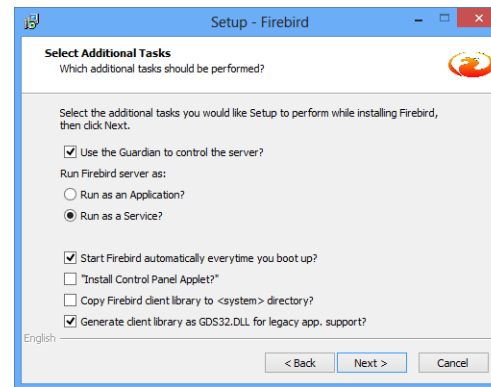

Fig. 33 Window of database installation server
**!!! ATTENTION !!!** While installing database server on Windows 2000 and Windows XP systems, all the suggested settings should be accepted. In Windows Vista, applet installation should be SWITCHED OFF in control panel as in Fig. 33